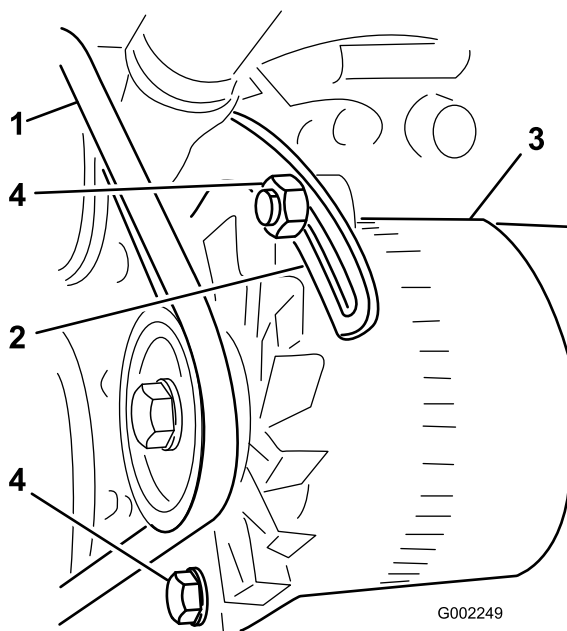

Figure 94
3. Loosen the bolt at the pivot point of the alternator; loosen the bolt that secures the alternator to the slotted brace (Figure 94).